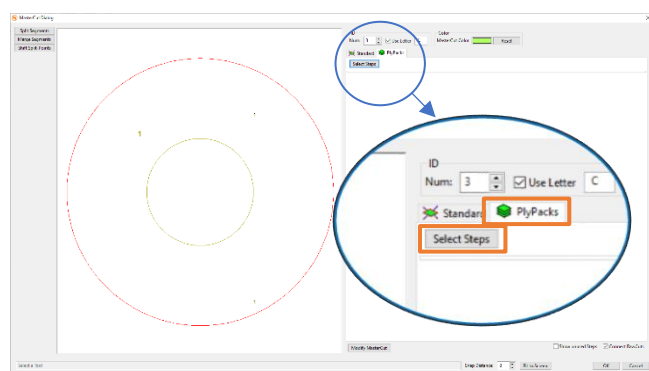

Figure 191
- Inside the MasterCut dialog you can switch between the Standard and the PlyPacks Tab. Previously, we used the Standard Tab when linking segments to each other. The PlyPacks Tab can be considered completely independent. Enter the PlyPacks Tab  and click **Select Steps** (Figure 191).